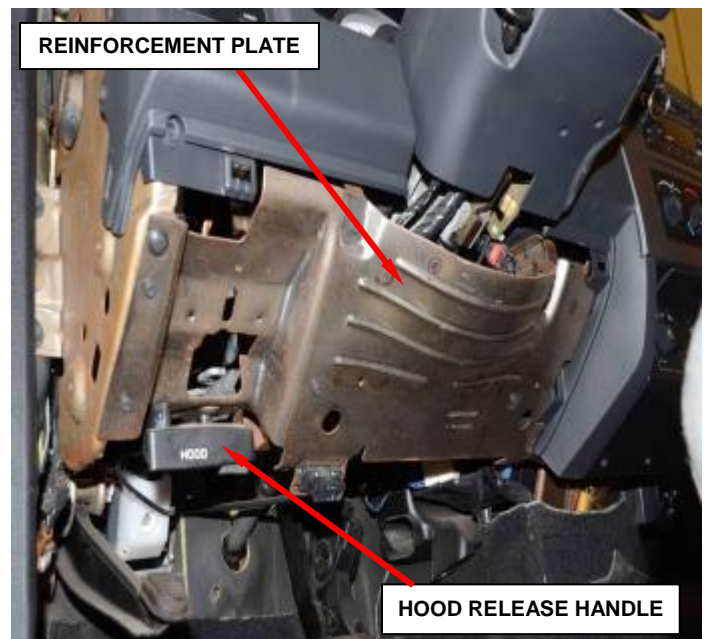

Figure 76 – Steering Column Reinforcement Plate
6. Remove the steering column reinforcement plate (Figure 76).
7. Remove the two hood release handle screws and position the handle to the side (Figure 76).